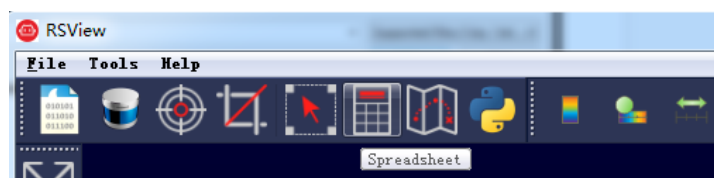

Fig C-9 RSView Spreadsheet Tool
5. To take a closer look at some data, scrub to an interesting frame and click the Spreadsheet button (Fig C-9). A sidebar of tabular data is displayed to the right of the rendered frame, containing all data points in the frame.